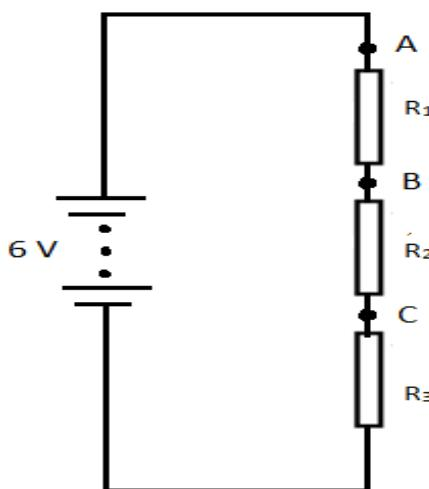

FIGURE 3.2: SERIES CONNECTED RESISTORS
3.8.5 Figure 3.2 shows three equal value resistors connected in series across a 6 V power supply.